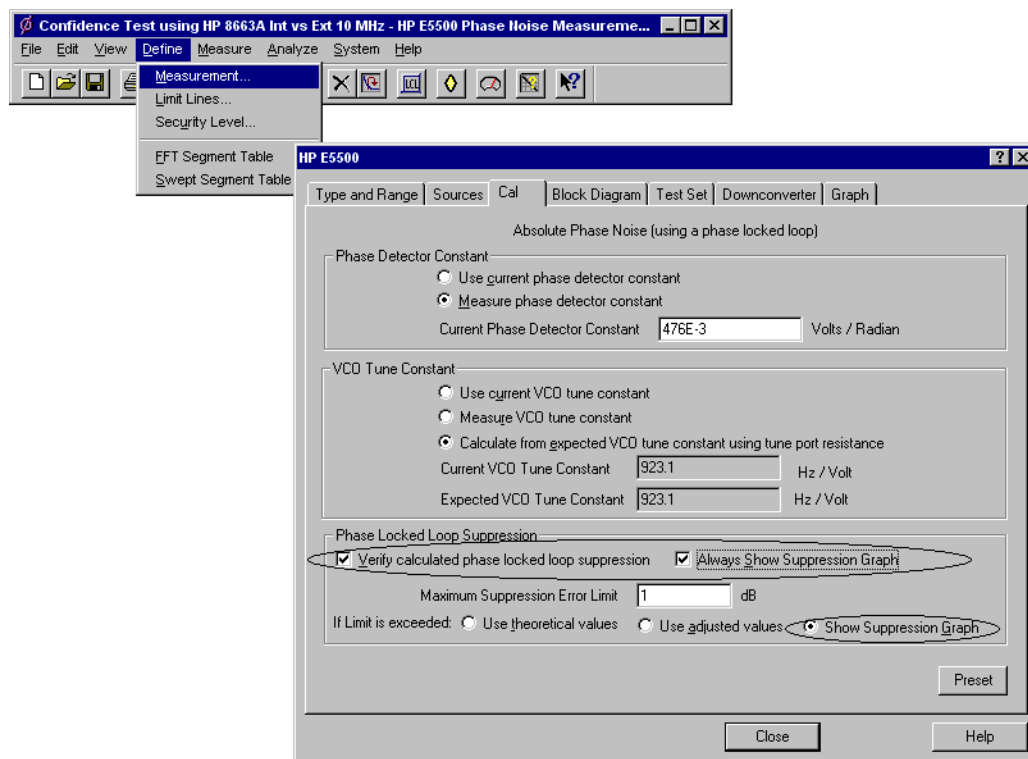

Figure 5-26 Selecting Loop Suppression Verification
- 2 In the **Cal** dialog box, check **Verify calculated phase locked loop suppression** and **Always Show Suppression Graph**. Select **If limit is exceeded: Show Loop Suppression Graph**. See Figure 5-26.